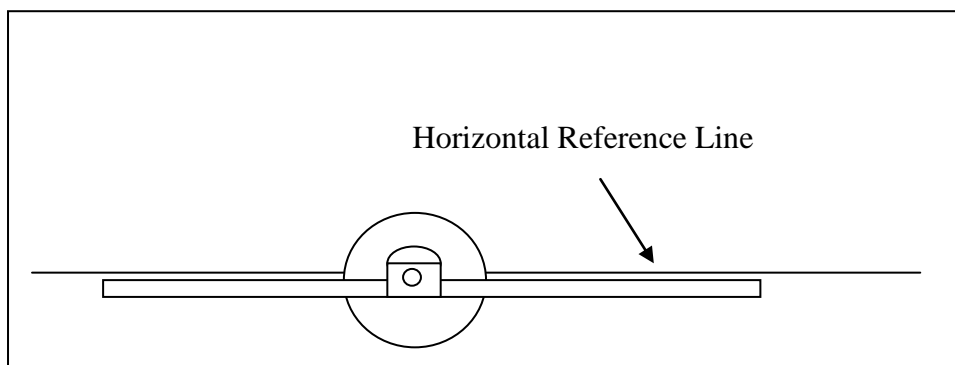

Figure 3.1: Equipment Setup
1. Hang the balance beam from the pivot as shown in Fig.3.1. Use the inclined plane as a level and straight edge to draw a horizontal reference line. Adjust the position of the balance beam in the pivot so that the beam balances horizontally.